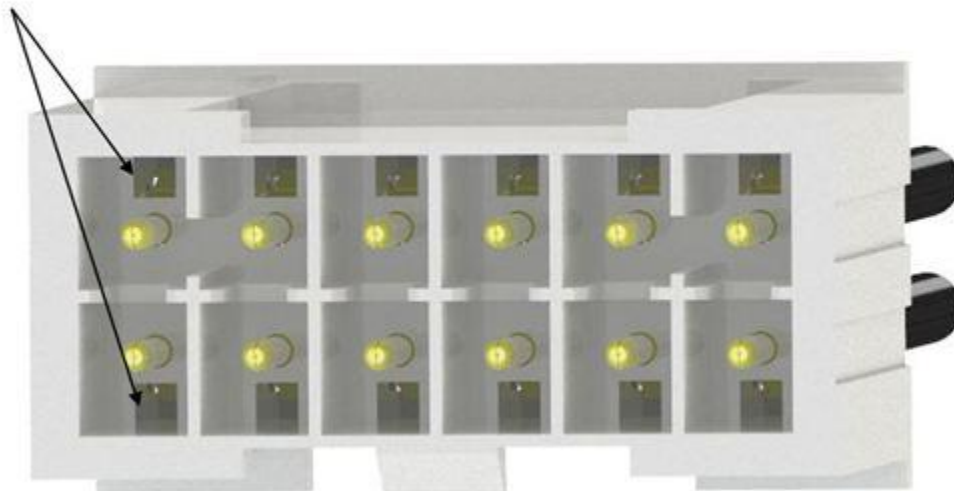
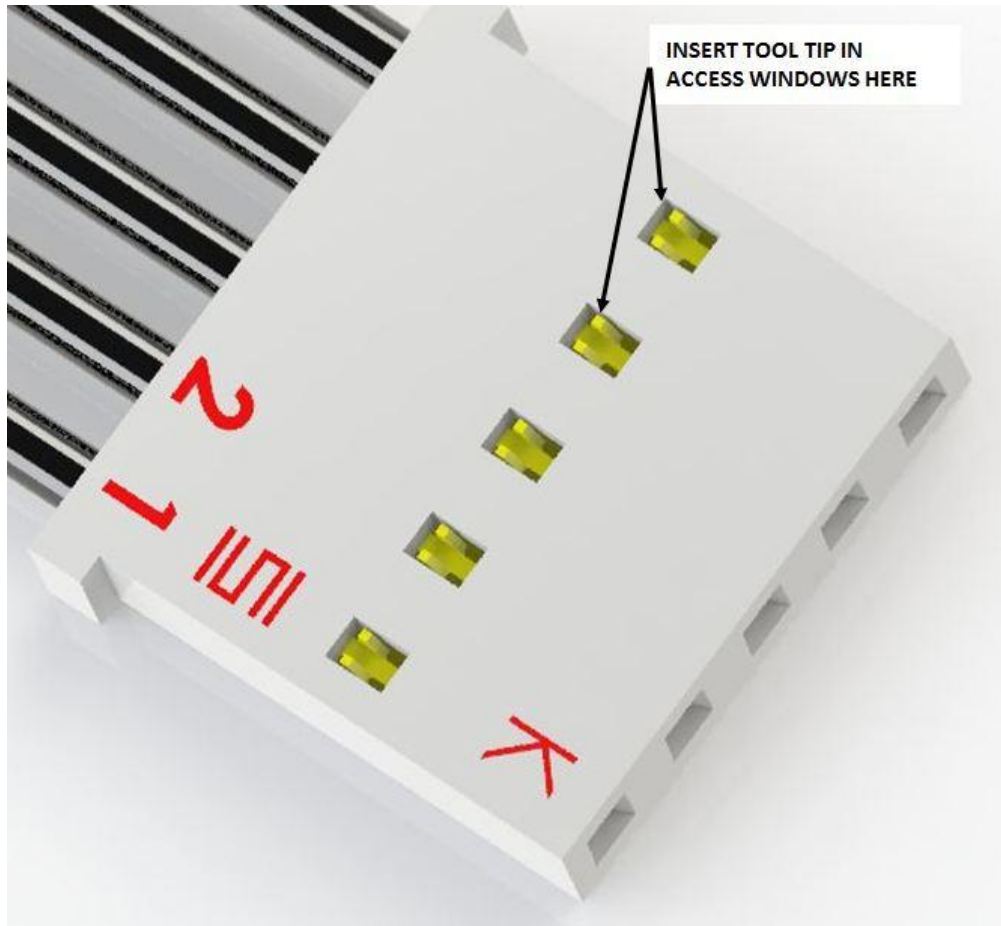

FIGURE 2
FIGURE 3
The T1M74 Mini Mate[®] terminal has a retaining lance that can be released through an access window located inside the housing as shown in **Figure 2**. The Extraction Tool has a tip that is inserted into the window to depress the lance the correct amount for contact removal.
The CC83 Mini Mate[®] contact has a retaining lance that can be released through an access window located on the outside of the housing as shown in **Figure 3**. The Extraction tool has a tip that is inserted into the window to depress the lance the correct amount for contact removal.
2. Engage the tip of the Extraction Tool in the lance window as shown in **Figure 2** and **Figure 3**. With downward pressure, push the tool toward the back of the window to release the lance.